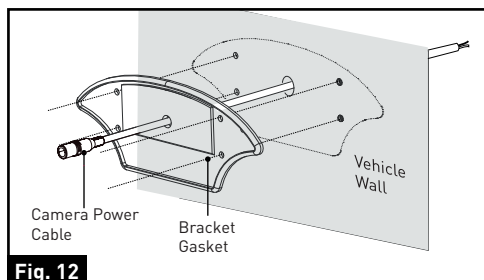

Fig. 12
3. Feed the supplied 6-foot camera power cable through the gasket. Ensure the bare end of the cable goes into the vehicle and the flat side faces inward. (Fig. 12)